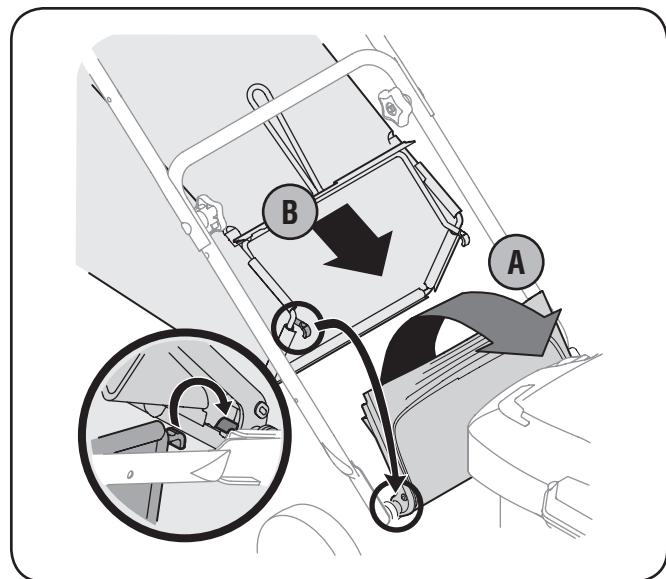

Figure 3-5
- Lift rear discharge door. See Fig. 3-5.